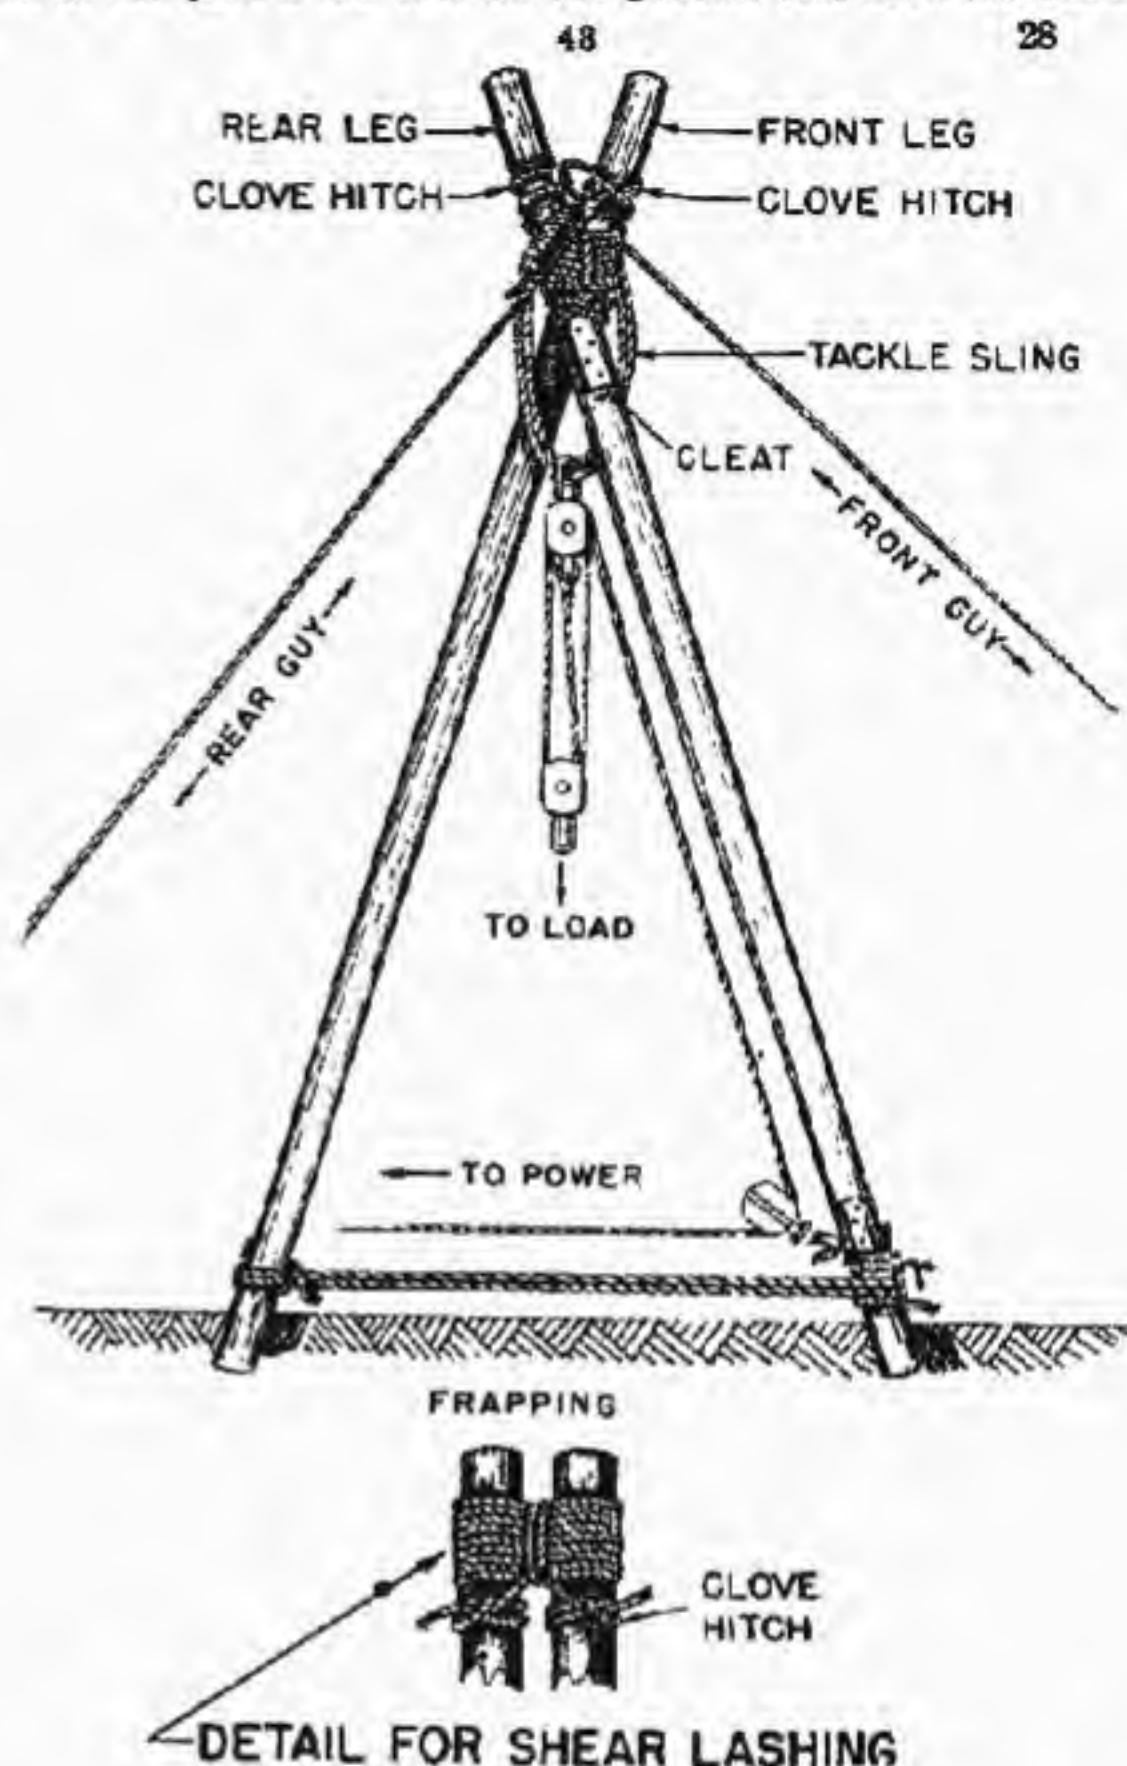

FIGURE 53.—Shears.
c. *Pair of shears* (fig. 53).—To lash for a pair of shears, lay the two spars alongside each other with the butt ends